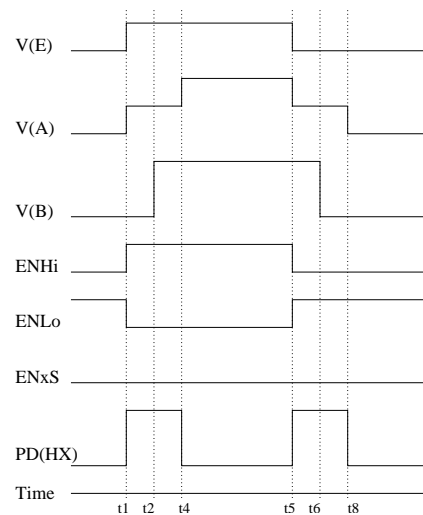

Figure 7: Power dissipation $P_D(HX)$ without iC-xSwitch
Figures 7 and 8 show the input signal V(E), the switch trigger signals derived from this and the voltage curve at the beginning (A) and end (B) of the line at intervals t1 to t8. Figure 7 shows operation without iC-xSwitch. Power